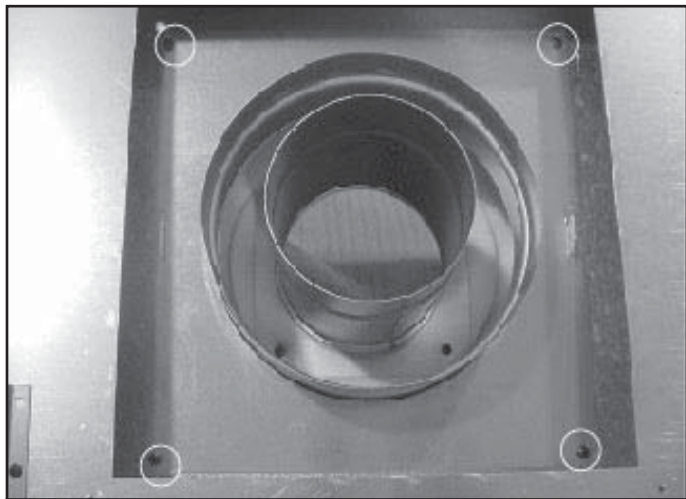

Figure 9.4 Inner Plate, Top of Appliance
- Remove four screws holding inner plate surrounding the flue. See Figure 9.4. Remove inner plate and discard.